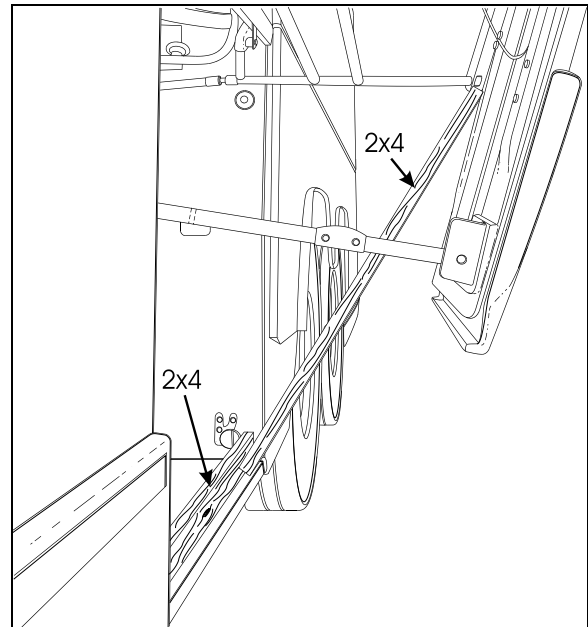

FIGURE 51: PANTOGRAPH ADJUSTMENT 18319
3. Install another piece of 2x4 between the first piece and the bottom of the pivot of the lowest (or shortest) pantograph arm, (Fig. 51).